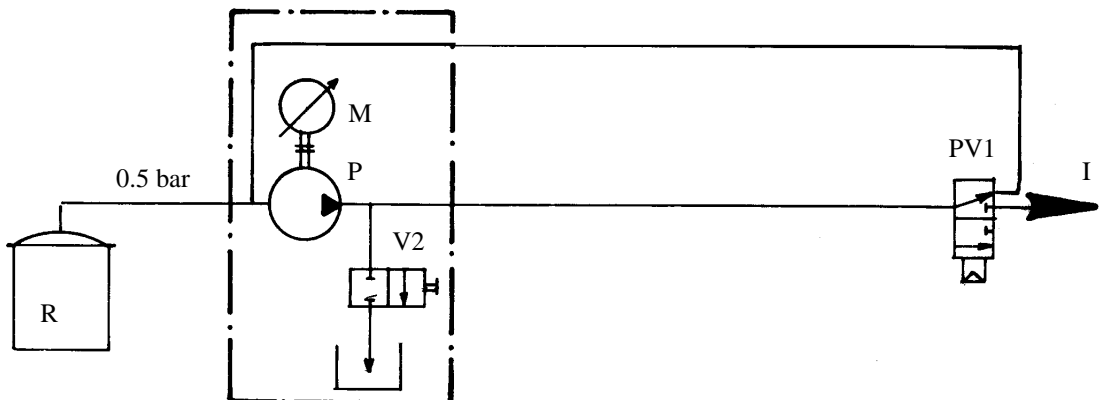

Figure 8
5.2. ASSEMBLY WITH RETURN CIRCUIT AND DRAINAGE VALVE (SEE FIGURE 8)
Operation identical to that of **figure 8**, as described in section 5.2 with control of drainage assured by the air valve **PV4** instead of the manually operated valve **V2**.